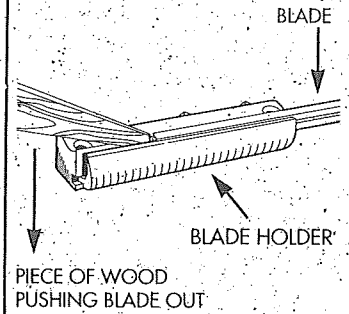

Fig. 5
4. Using the same scrap of wood, push the blade out of the blade holder, as shown in Figure 5. At this point, you can either reverse the blade and reinstall it or you can replace it with a new blade available at your local Black & Decker Service Center. Ensure that blade is centered to avoid contact with housing.